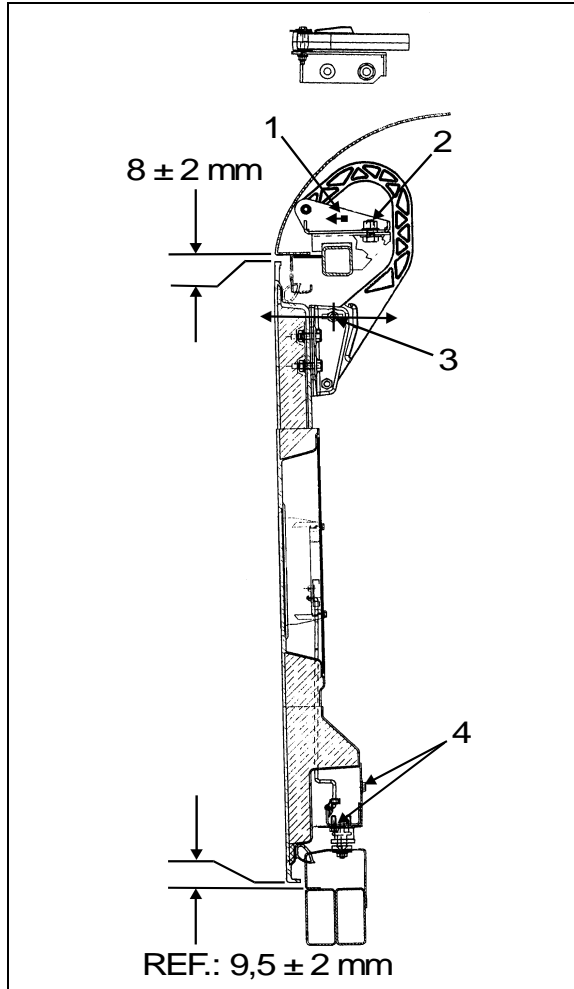

FIGURE 71: DOOR HINGE
2. Loosen nut (2, Figure 71).
3. Move part (1, Figure 71), as close as possible to exterior of coach, so as to have enough clearance for proper door opening.
4. Tighten nut (2, Figure 71).
5. Loosen nut (3, Figure 71). Hinge allows the door to be shifted "IN or OUT".
6. Adjust door panel to have the same gap space as neighboring panels or refer to Figure 51 for specified gap space. Only if necessary, use the adjustment allowed by moving part 1, Figure 71.